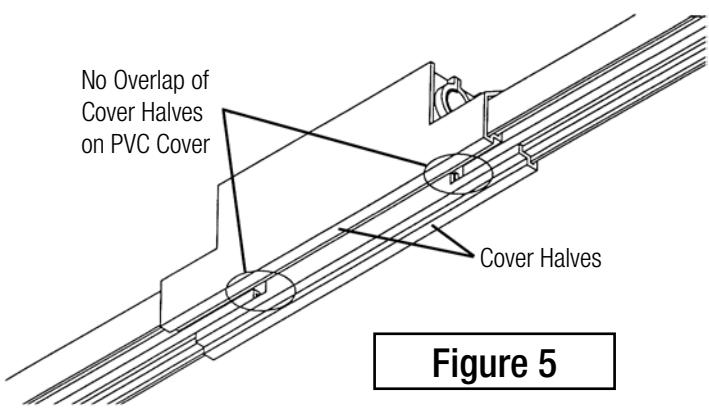

Figure 5
2.2.2.3.2 **Important:** DO NOT allow the cover halves to overlap the PVC conductor cover. Overlapping the cover may derail the collector during operation (see Figure 5).